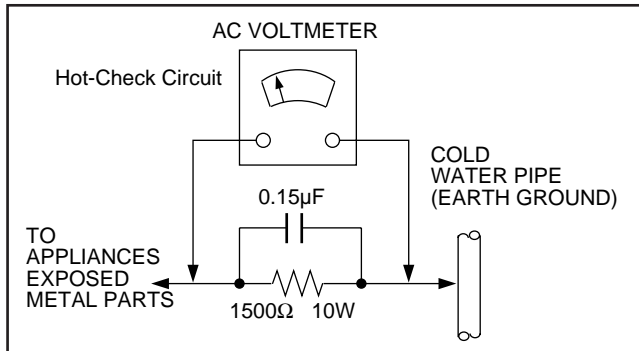

Figure1
LEAKAGE CURRENT HOT CHECK (See Figure 1)
2. Connect a 1.5k Ω , 10W resistor, in parallel with a 0.15µF capacitor, between each exposed metallic part on the set and a good earth ground such as a water pipe, as shown in Figure1.